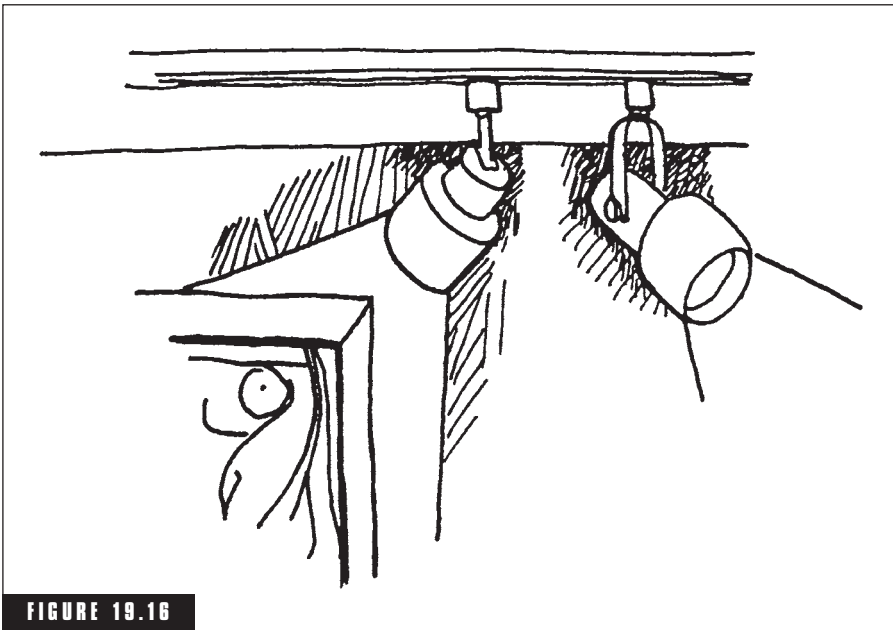

FIGURE 19.16
- **Track**—one electrical outlet supplying a number of separate fittings that can be positioned anywhere along a length of electrified track. It's very versatile for ceilings or walls, with vertical or horizontal tracks (Fig. 19.16).